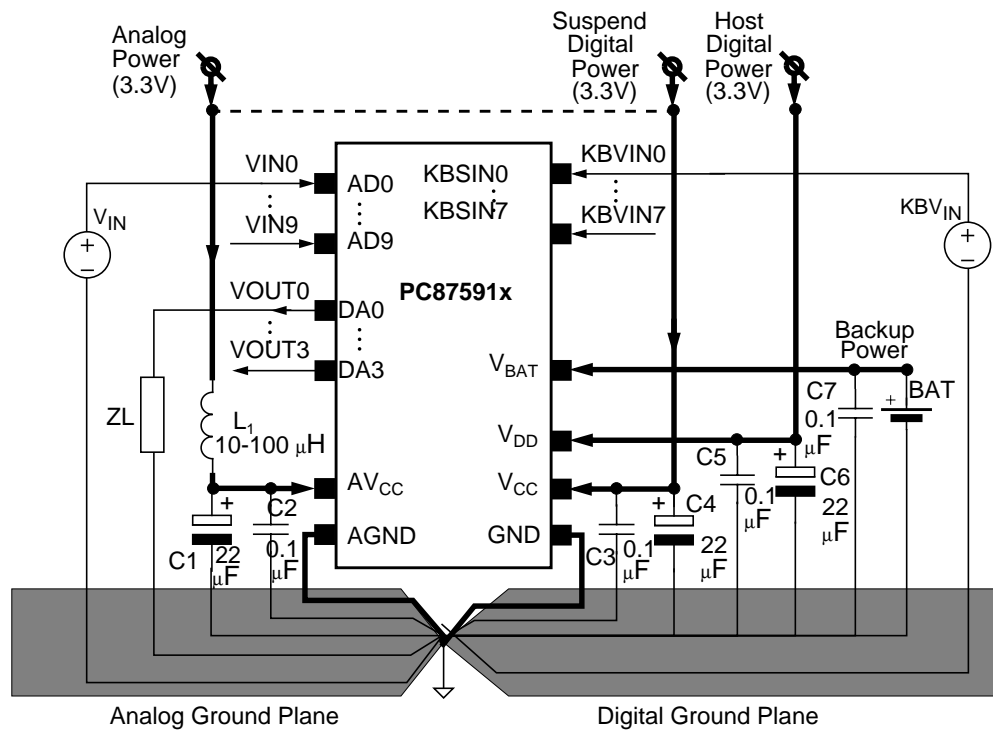

Figure 11. PC87591x Power Supply Connection
The following directives are recommended for the PC87591x power and ground connections (see Figure 11 for the power supply connections):
- The ground reference of the voltage input signals to the ADC module (V_{IN0-9} in Figure 11) should be connected to the AGND plane close to the PC87591x.
- The ground reference of the voltage output signals from the DAC module (V_{OUT0-3} in Figure 11) should be connected to the AGND plane close to the PC87591x.
- The ground reference of the voltage input signals to the ACM module (KBV_{IN0-7} in Figure 11) should be connected to the GND plane close to the PC87591x.
The analog supply pin, AV_{CC} , should be connected to a low-noise power supply that has the same voltage as the digital supply (3.3V). If the AV_{CC} pin is connected to the same power supply as the V_{CC} pin, it is recommended to use an external LC or RC filter for the AV_{CC} pin. An example of an LC filter [L_1 and (C_1+C_2)] is shown in Figure 11. An RC filter is obtained by replacing L_1 (in Figure 11) with a 10Ω resistor (not shown in the figure).
The following decoupling capacitors should be used to reduce power supply deeps, ground bounce and EMI (refer to Figure 11 for the position of capacitors, e.g., C1, C2, etc.):